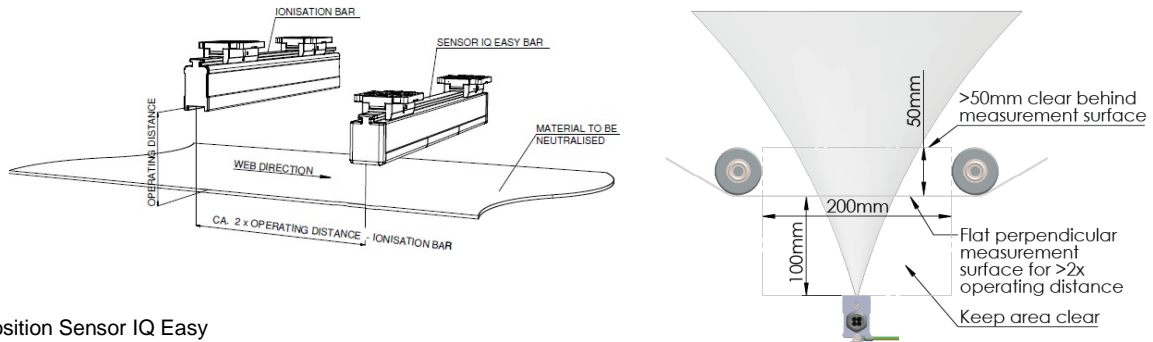

Figure 6: Position Sensor IQ Easy
**Note: Conductive machine parts close to an Sensor IQ Easy 2.0 EX may have a negative influence on its effectiveness. For the best results the Sensor IQ Easy 2.0 EX should be mounted according to figure 6.**